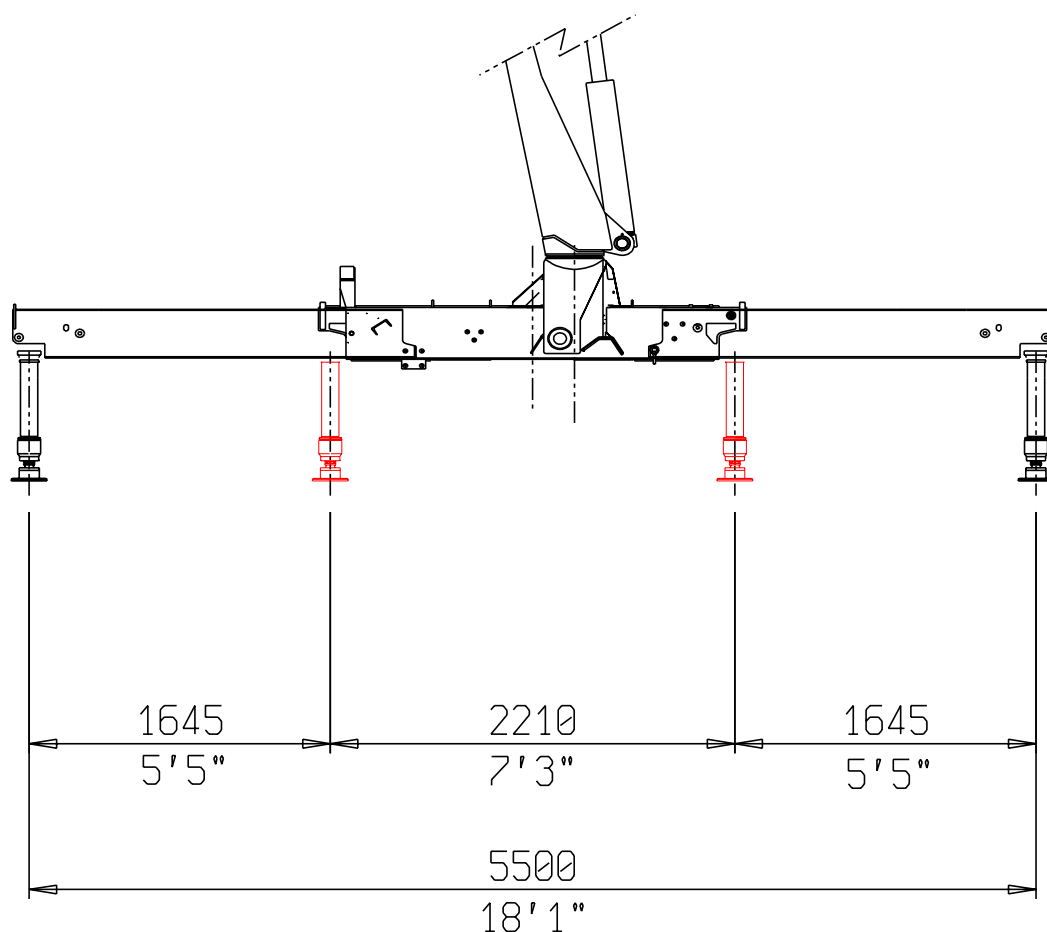

Fig.6-3
6.4 BRACCI STABILIZZATORI STANDARD A SFILO IDRAULICO (Fig. 6.3)
6.4 HYDRAULIC STANDARD OUTRIGGERS BOOMS (Fig. 6.3)